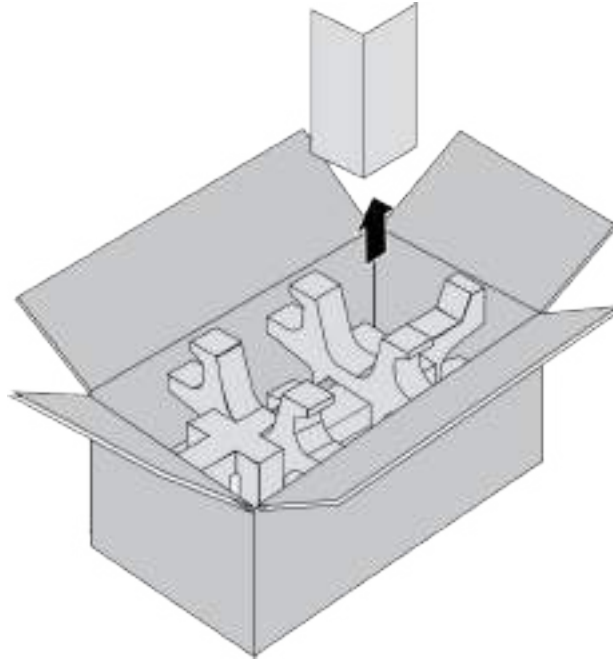

Figure 34. Removing the Partition from the PWR600 AC Power Supply Shipping Box
2. Remove the partition from the shipping box. Refer to Figure 34 on page 80.